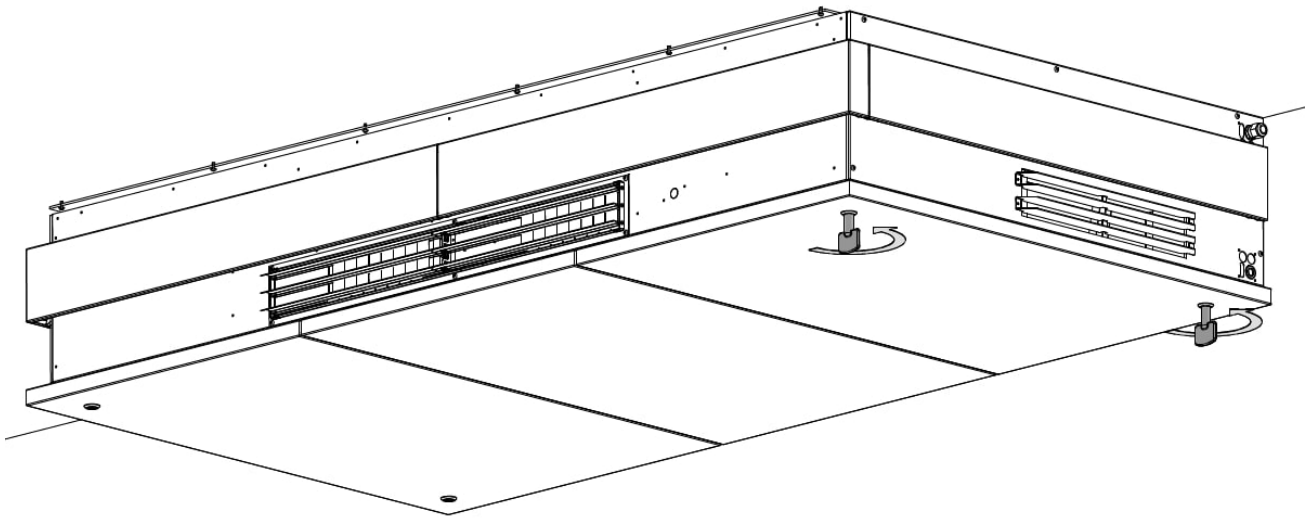

Figure 19: Close the service cover
10. Close the service cover, see Figure 19.